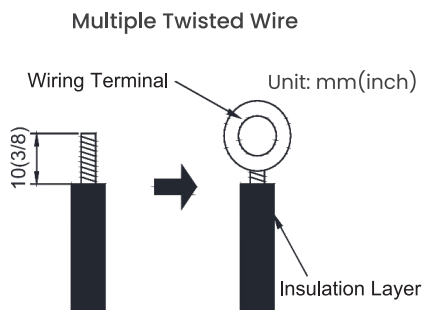

Fig 5.1.2
2. The connection of stranded wire (as shown in fig 5.1.2)